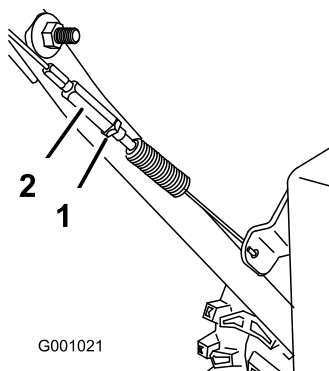

Figure 34
3. Tighten the jam nut (Figure 34).